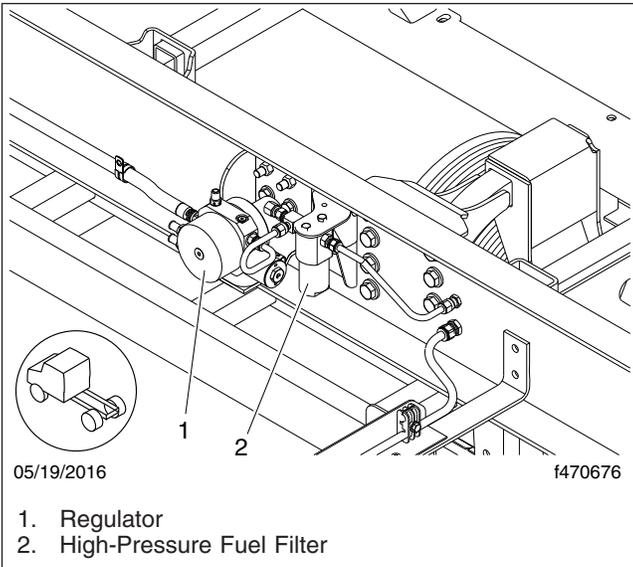
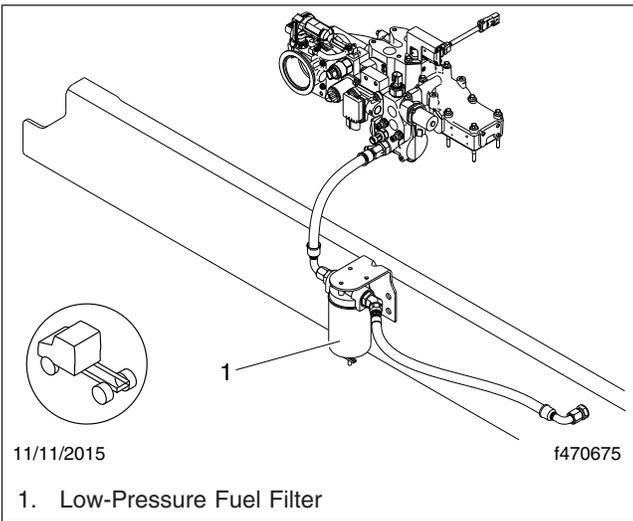

Fig. 7, High-Pressure Fuel Filter
Fig. 8, Low-Pressure Fuel Filter
5. Put a clean receptacle under the filter assembly. Unscrew the filter from the filter housing. See Fig. 7 and Fig. 8.